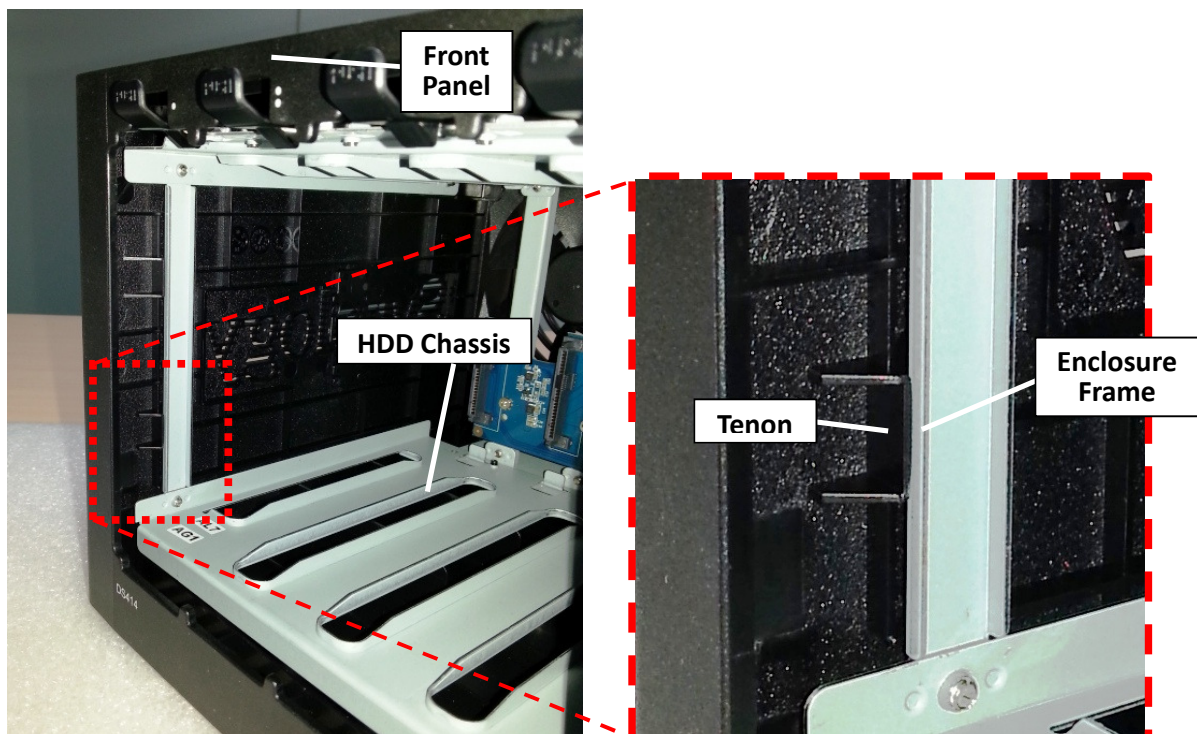

Fig. 4
2.1.4 The left cover clamps to the enclosure frame with the two (2) tenons on its interior (Marked by the red rectangle). (Fig. 4)